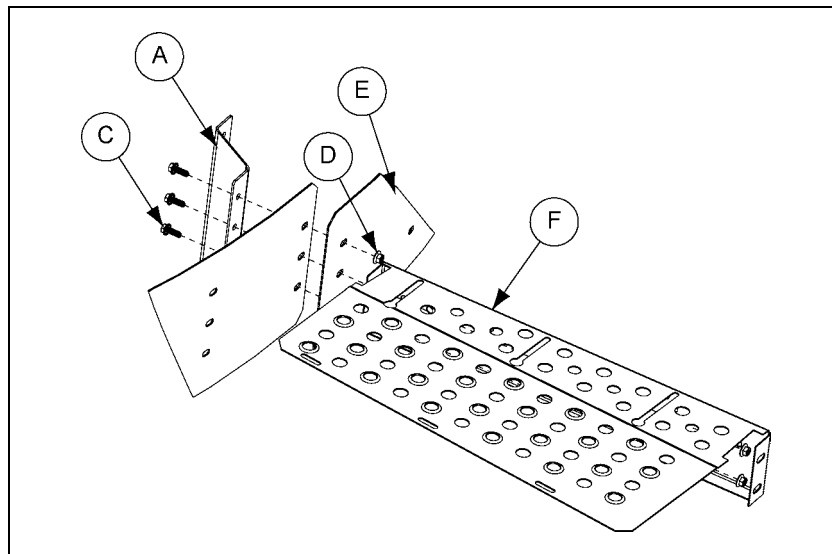

Figure 4C
2. Install the inner toe board (E) and planks (F) to the wall brackets (A) using bolt (C) and nut (D). (See Figure 4C.)